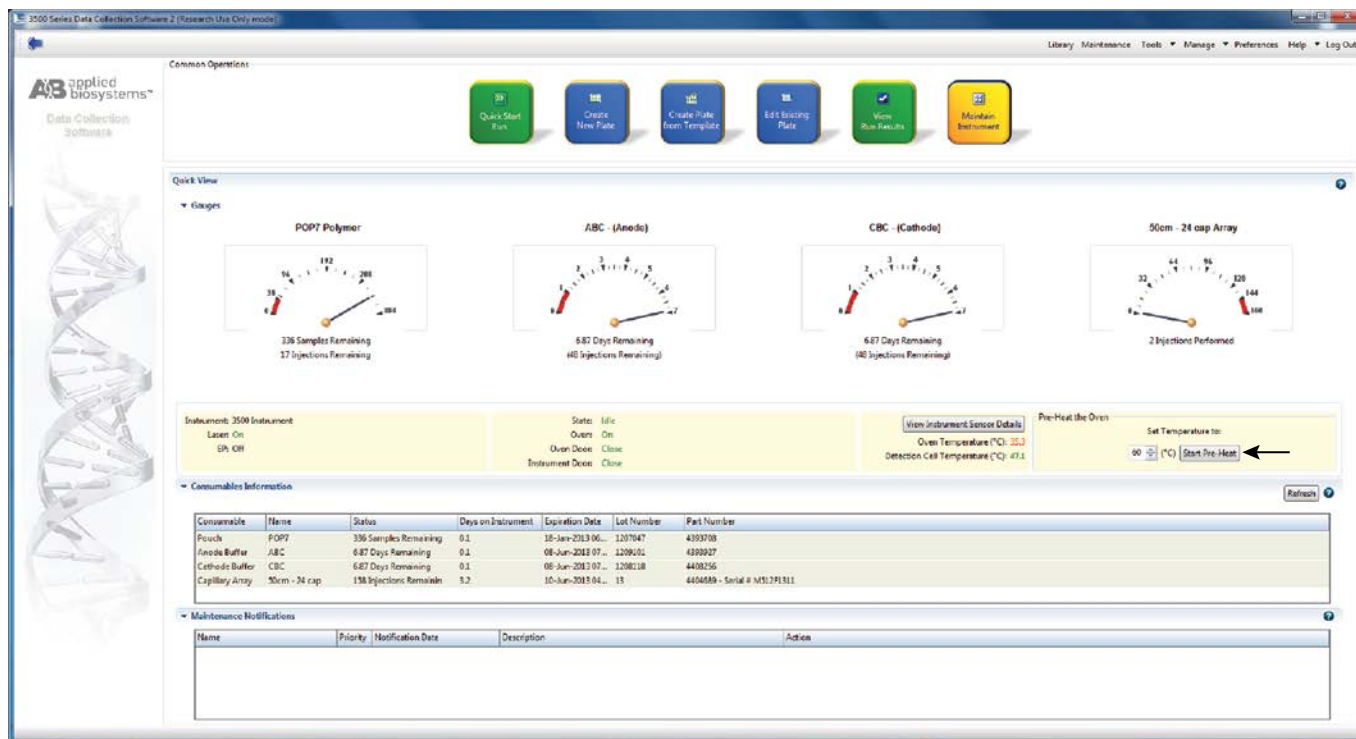

Figure 1. The Dashboard.
1. If you have not already preheated the oven to 60°C, select “Start Pre-Heat” (Figure 1). Applied Biosystems recommends that you preheat the oven for at least 30 minutes before you start a run if the instrument is cold.
1. Open the 3500 Data Collection Software. The Dashboard screen will launch (Figure 1). Ensure that the Consumables Information and Maintenance Notifications are acceptable. Set the oven temperature to 60°C, then select “Start Pre-Heat”. Applied Biosystems recommends that you preheat the oven for at least 30 minutes before you start a run if the instrument is cold.